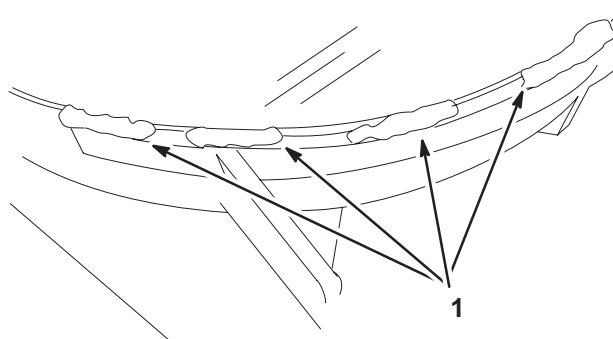

Figure 11
1. Grind the welds flat on rear part of the mower. This will allow the correct fit for the left and right rear baffles (Fig. 11).